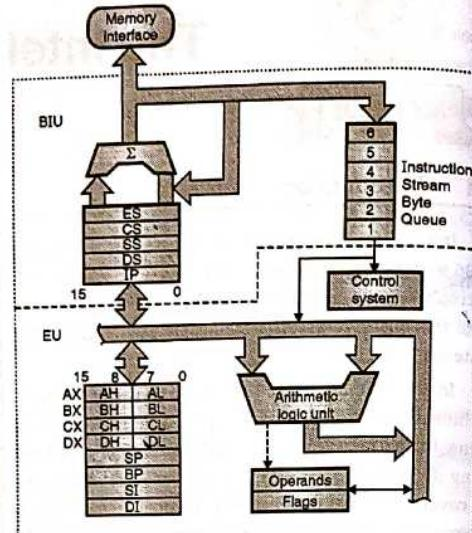

Fig. 2.3.1 : 8086 flag register format
- Fig. 2.3.1 shows the block schematic of the internal structure of Intel 8086.
- As shown in Fig. 2.3.1, the 8086 CPU is divided into two sections namely:
2. The execution unit (EU).
- Execution Unit (EU) is the main processing section of the processor. It is responsible for doing all calculations, arithmetic and logical operations. It also controls the different operations in the processor.